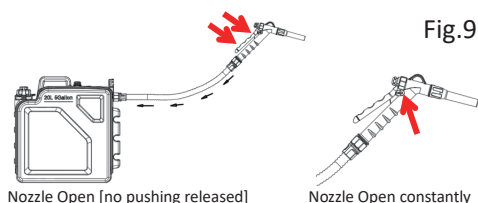

Fig.9
2. Remove the nozzle from fueling port and raise it slightly to ensure that any residual fuel returns to the supply tank. Then, close the nozzle as shown in Fig. 9